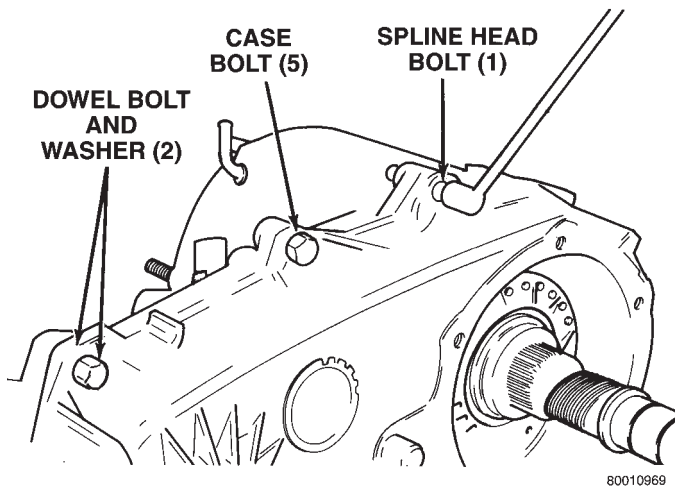

Fig. 18 Rear Case Alignment Bolt Locations
- (1) Support transfer case so rear case is facing upward.
- (2) Remove bolts holding front case to rear case. The case alignment bolts require flat washers (Fig. 18).